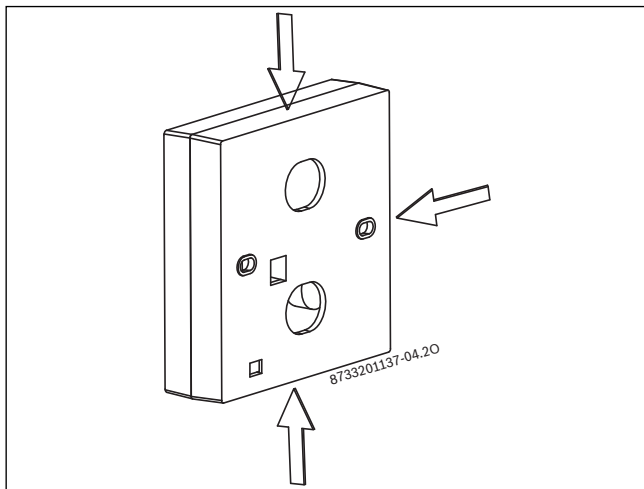

Fig. 4
- Finger-tighten the middle part of three edges of back cover, as shown in the figure, to make the three edges recessed, and then remove back cover(→see Fig. 4).